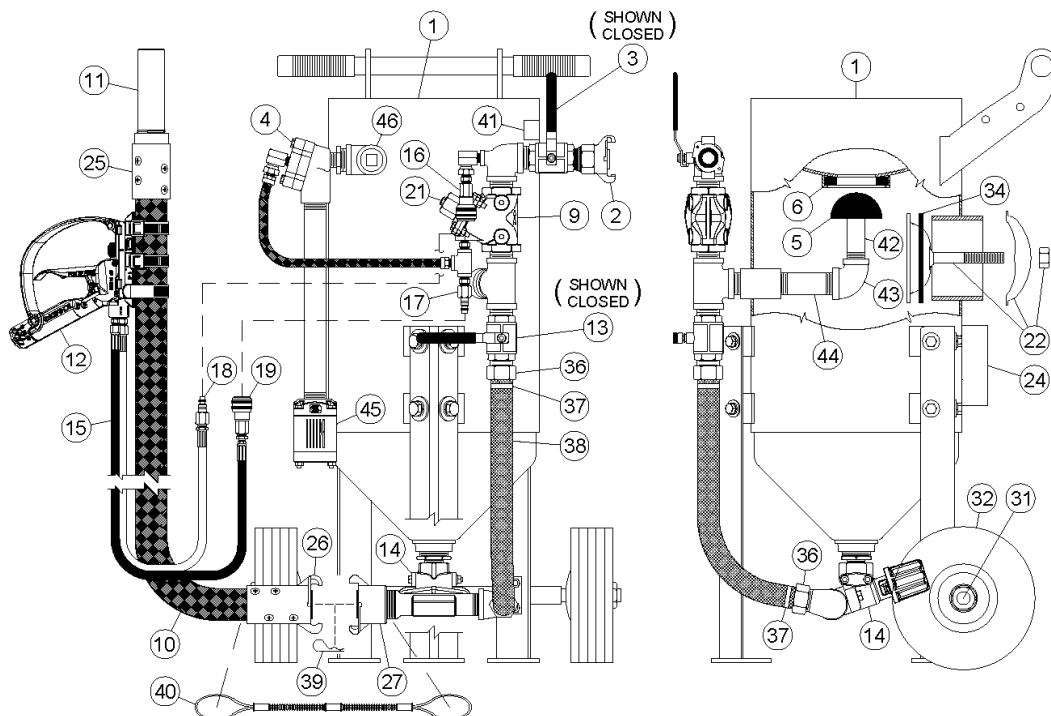

Figure 7.1 – Universal Small Pot with pneumatic blast controls
- 7.1.2. Check that the popup (#5) has dropped open. The open popup indicates that the blast vessel is depressurized. See Figure 7.1.
7.2 Beginning the Blasting Operation (See Figures 7.1 and 7.2)